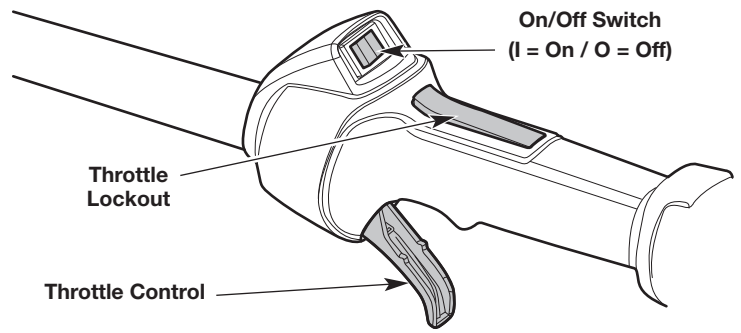

Fig. 10
**NOTE:** There is no need to turn the unit on. The On/Off switch is in the **On (I)** position at all times (Fig. 10).
**NOTE:** **DO NOT** squeeze the throttle control until step 8 (Fig. 10).
8. Press and hold the throttle lockout (Fig. 10). Squeeze the throttle control as needed for operation (Fig. 10).
2. Press and hold the On/Off switch in the **Off (O)** position until the engine comes to a complete stop (Fig. 10).